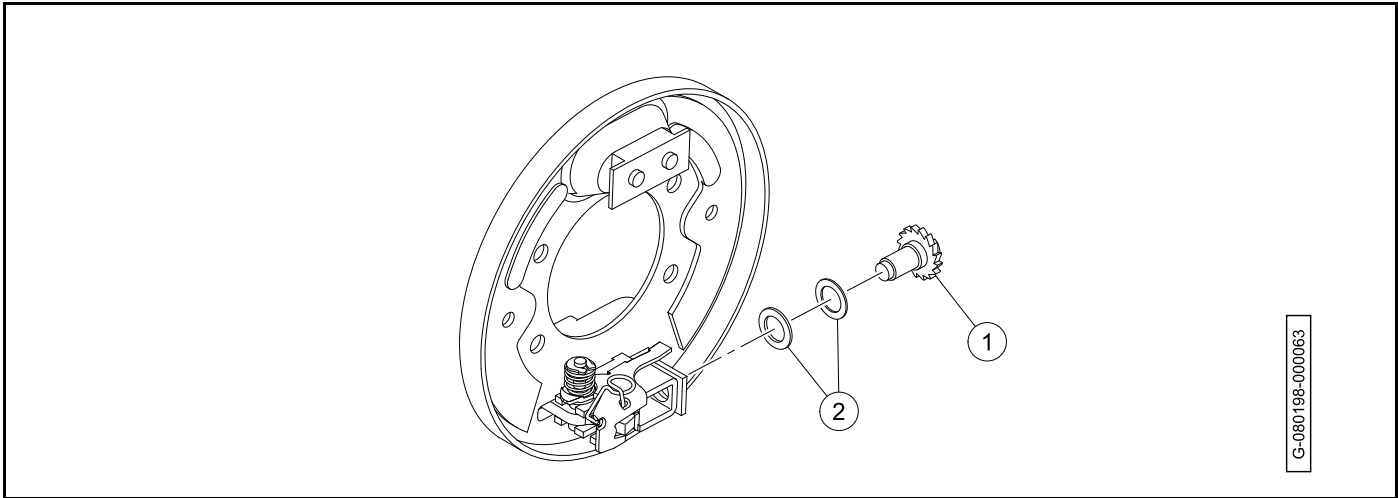

Figure 6-5
16. Remove adjuster wheel (1) with two washers (2 and 3) from the backing plate (Figure 6-5).